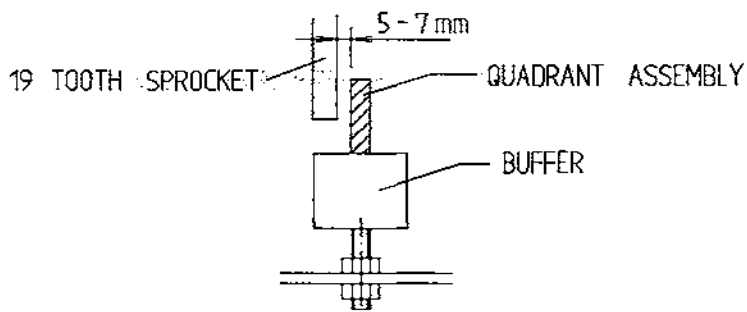

FIG 5
- (ii) That the clearance between the sprocket and the quadrant is 2 - m (Fig 5.) The quadrant assembly can be moved in or out to adjust.